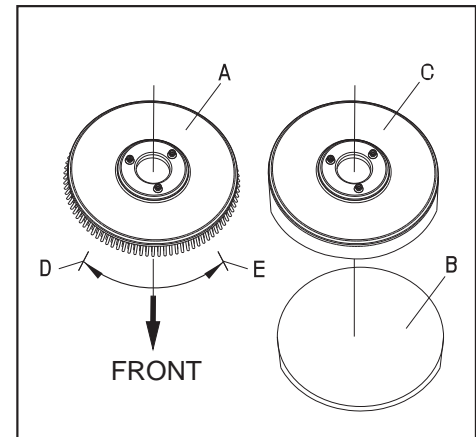

FIGURE 8
According to the type of floor to be cleaned, the machine may be installed with brush (Figure 8, A), or a pad-holder (Figure 8, B and C).
1. Make sure the switch (41) is at the disconnecting (Off) position.
2. Press down the handle (2) to lift the tank body (26).
3. Put the brush (A) or the pad-holder (B - C) under the case.
4. Use the handle (2) to lower the tank body (26) to come into contact with the brush or pad-holder.
5. Manually attach by following the arrow head (D) to install the brush/pad-holder (as shown in Figure 8).
6. Remove by turning the brush/pad-holder in the opposite direction and it can be taken off. (Figure 8)